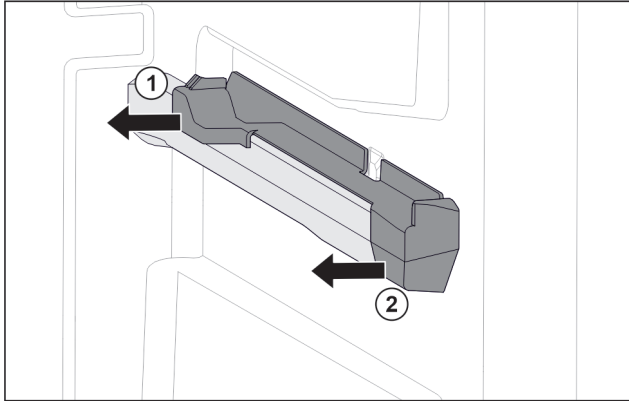

Fig. 83 Attachment on the right moulded rib
- Pull off attachment at the back sideways. Fig. 83 (1)
- Pull off attachment at the front sideways. Fig. 83 (2)